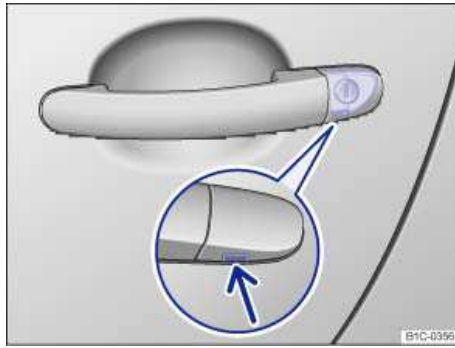

Fig. 195 Door handle on driver door: Concealed lock cylinder.
- Insert the key bit from below into the opening of the cover cap on the driver door ⇒ fig. 195 (arrow) and lift the cover cap off. Grasping the door handle and pulling slightly makes it easier to remove the cap.